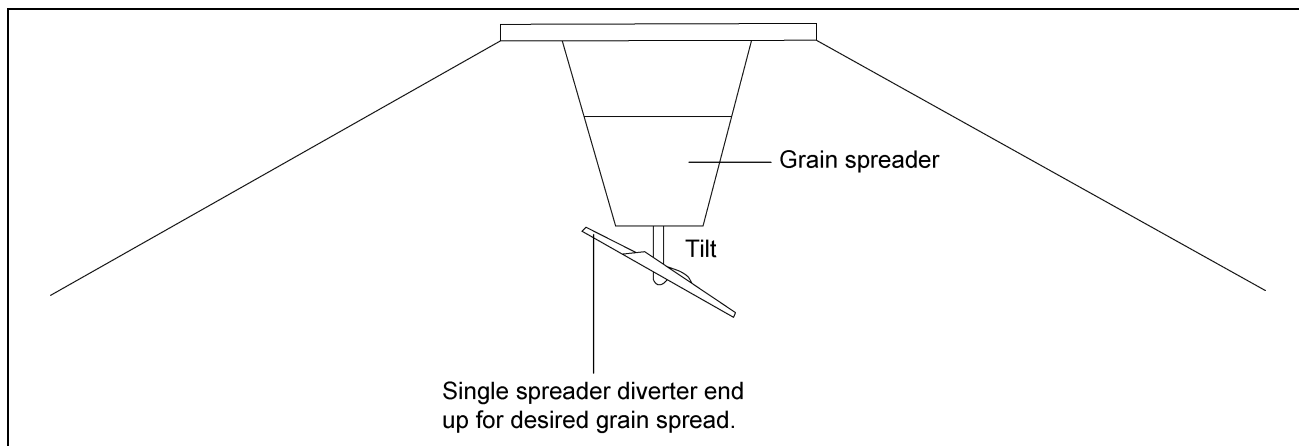

Figure 5A Adjustment of the Tilt
1. Tilt adjusts the entire spreader blade, which controls overall grain spread. To adjust tilt, loosen the two (2) U-bolts that allow the blade to tip up and down. This may vary according to bin diameter and fill rate. (See Figure 5A.)